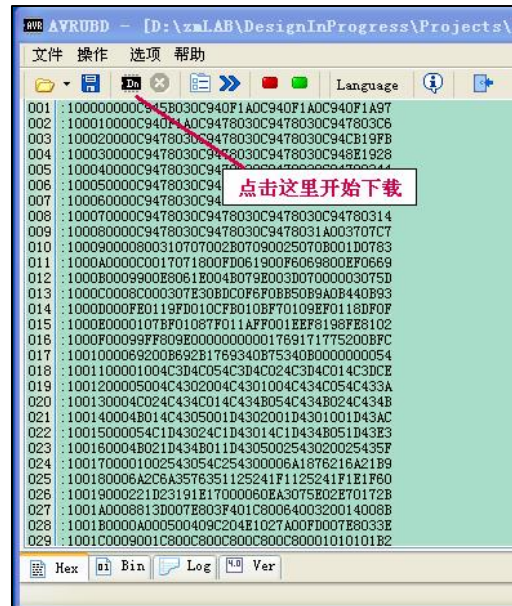

Fig. 4
- 7) Click at "Dn" icon (see Fig. 4, or you can click at "Operate – Download" from the main menu) and power up the oscilloscope immediately. You need to do this quick because the handshaking time is only 1 – 2 seconds. You can also do the other way around by first powering up oscilloscope and then clicking the "Dn" icon right away. You will see AVRUBD is trying to communicate with the bootloader in DSO082. If the handshaking is failed you will see a screen like Fig. 5.